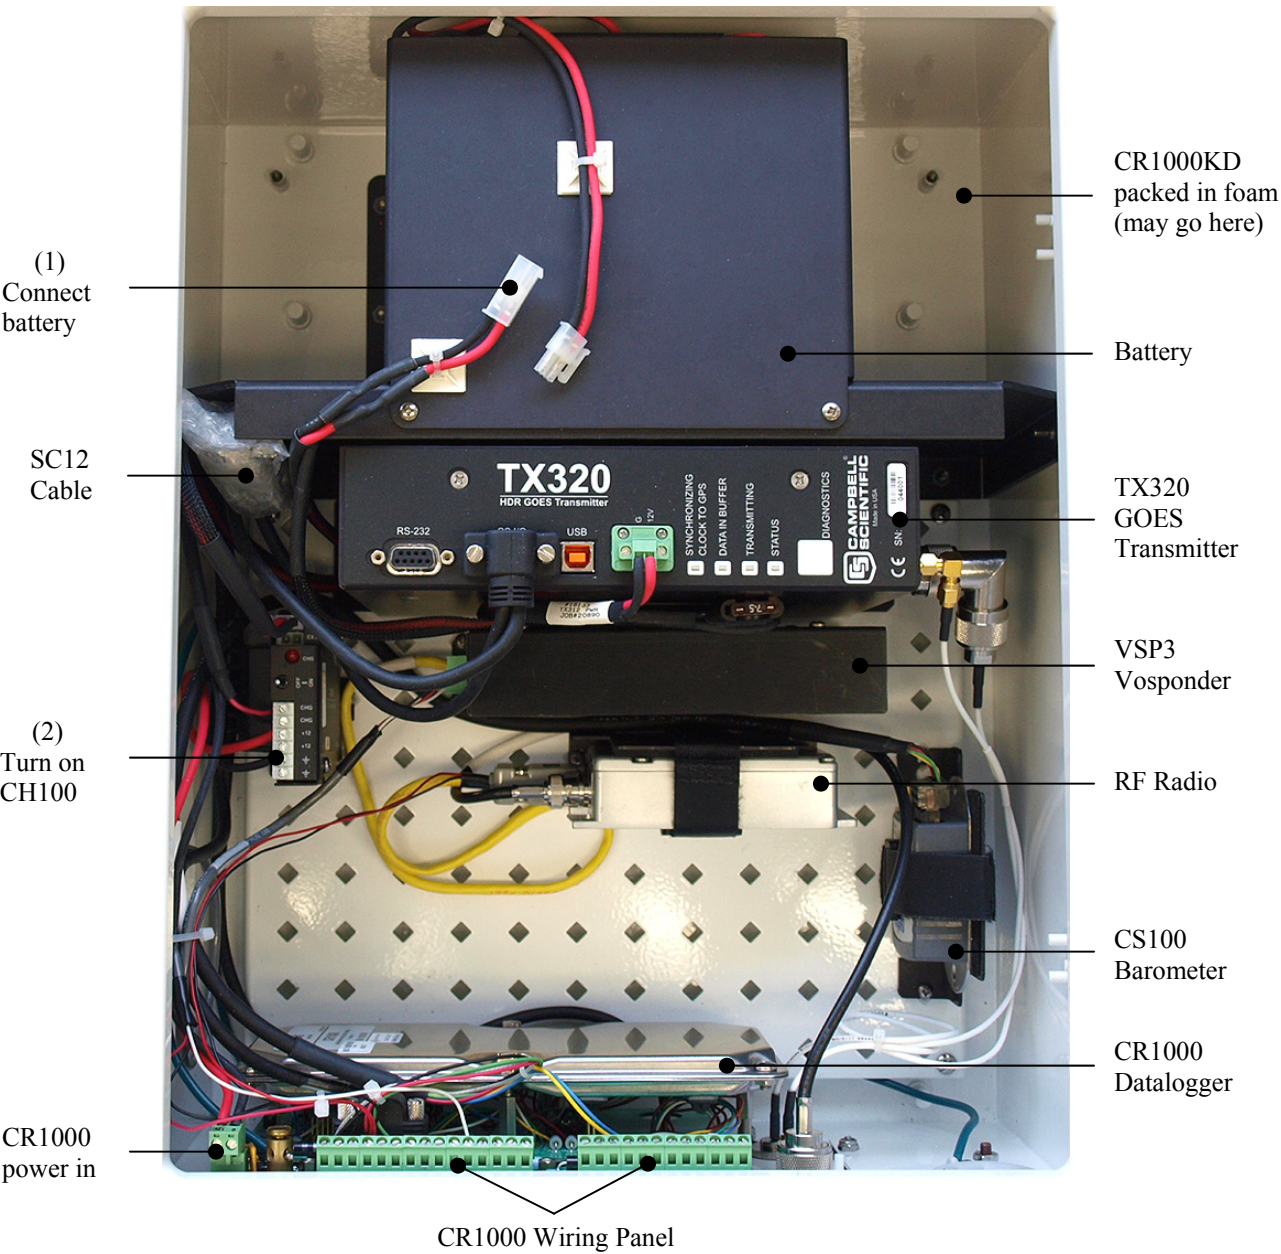

FIGURE 2-1. Inside environmental enclosure (optional equipment shown)
- Connect the CR1000KD Keyboard Display to the CS I/O connector (FIGURE 5-5) or SC12 Cable (FIGURE 2-1)